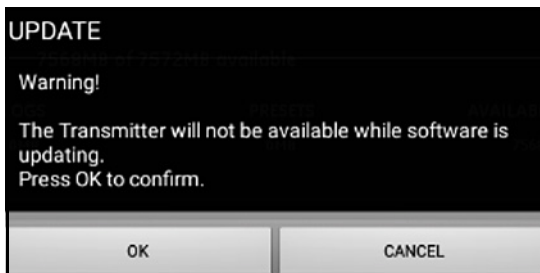

Figure 122: Update Confirmation Screen
- At the screen shown in *Figure 122* below, click the **OK** button to confirm the update and continue.